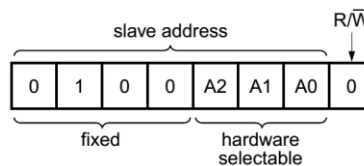

Figure 3. PCF8574 Address.
2. To use this IC, the unique address is set by applying logic to A0 – A2 pins. For KU Lab board, the P0 – P7 pins are connected to LEDs. Since the PCF8574 address is the 7bits address and the least significant bit is used to select Read / Write command as shown in Figure 3. Therefore, to communicate with PCF8574, the address that was found by the experiment 4.1 is needed to be shifted to left by 1 bit and replace the least significant bit to zero.